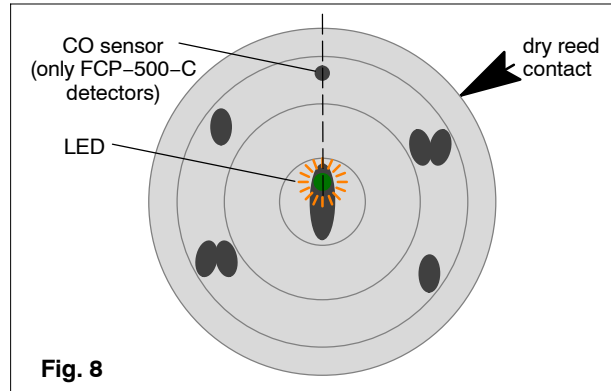

Fig. 8
2. Turn the test tool until the magnet activates the dry reed contact (see Fig. 8). Normally the green LED flashes once every 8 to 12 sec. When the dry reed contact activates, the LED flashes once every second.